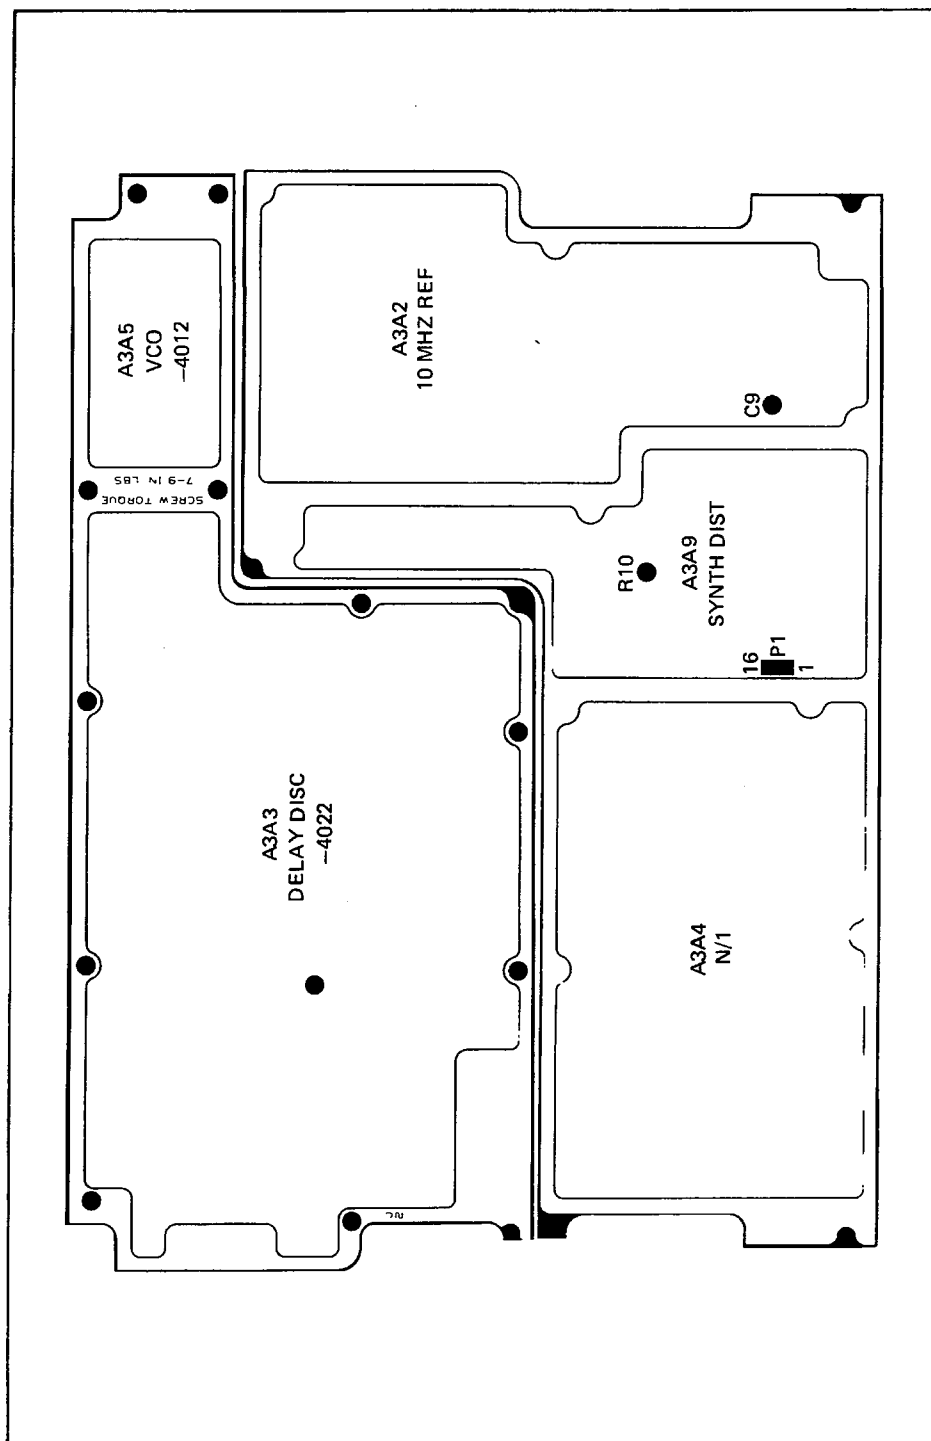

Figure 6-6. FM/θM Adjustments - Synthesizer Plate
12. Adjust R10 on the A3A9 Synthesizer Distribution PCB (Figure 6-6) for a Modulation Analyzer reading of 100.1 kHz.
7. Adjust R10 on the A3A9 Synthesizer Distribution PCB (Figure 6-6) for a Modulation analyzer reading of 92.7 kHz.